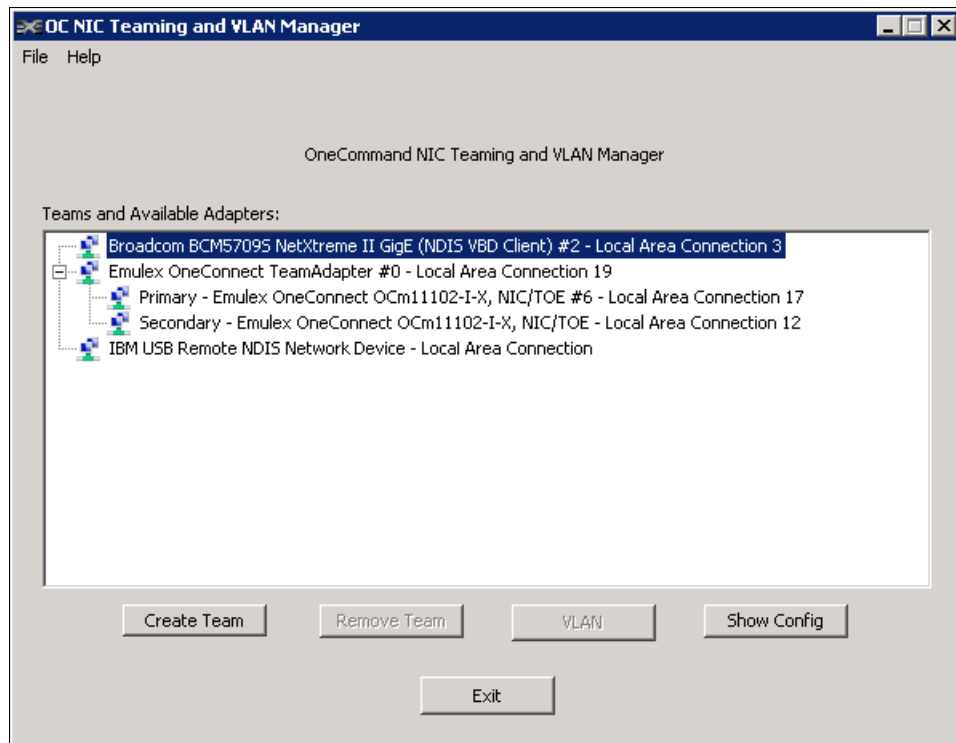

Figure 7-35 OC NIC Team members
3. In the next window (Figure 7-35), expand the team name to verify the team members. Click **Show Config** to view the current configuration of the adapter. Then click **Exit**.